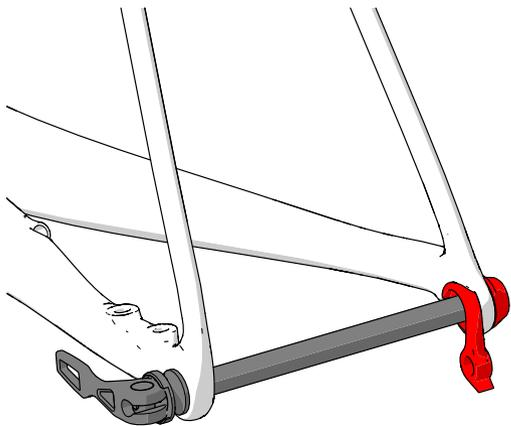

fig. 10
4. **Through Axle wheels** utilize a threaded axle paired with a cam action tension release lever to clamp the bike's wheel in place (fig. 10)
C. Adjusting the through axle mechanism (fig.10)